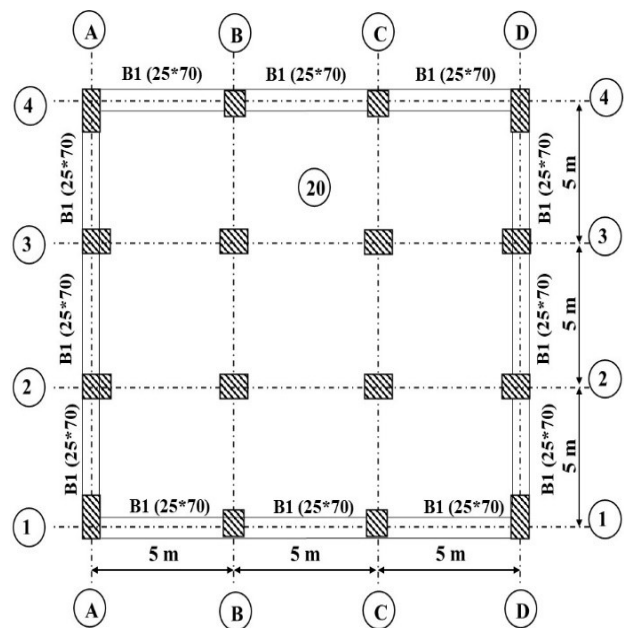

Figure 4. Flat slab project
4. Describe how to use SAP 2000 to analyze the R.C. Flat slab project in Figure 4. The covered area is 15 * 15 m, spacing between columns is 5 m, the marginal beams cross-section is 25*70 cm, and the slab thickness is 20 cm. assume L.L = 2 kN/m², and flooring cover 1 kN/m². (8 marks)